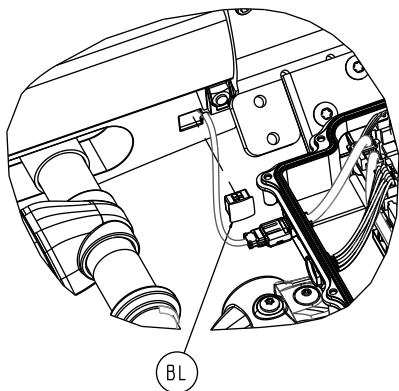

Figure 94 – Remove the hole plug
8. Using a pick, remove the hole plug (BL) for the MTS sensor from the back of the slider block (Figure 94). Save the hole plug.